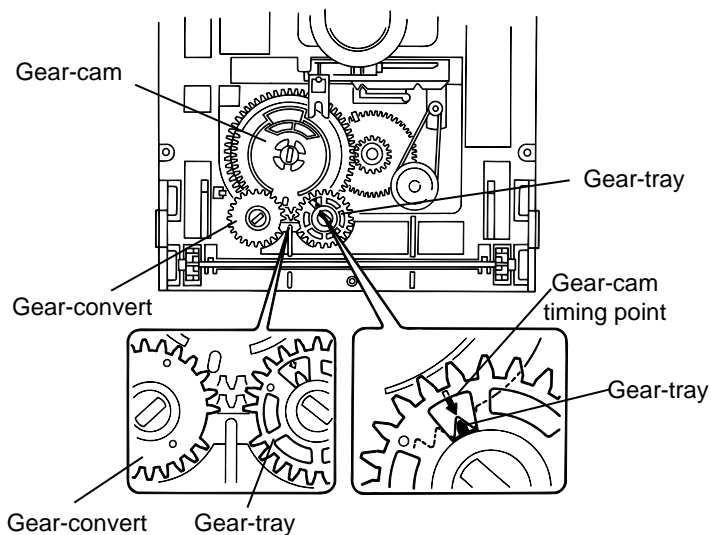

Fig.3
■Reinstall the CD tray (See Fig.3 and 4)
1. Align the gear-cam with the gear-tray as shown fig.3, then mount the CD tray.